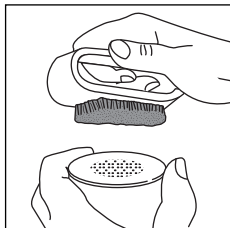
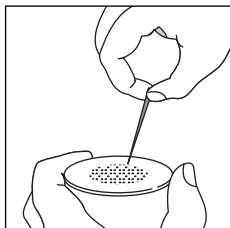

fig. 25
fig. 26
- Rinse all components and clean the metal filter thoroughly in hot water using a brush (fig. 25). Make sure the holes in the metal filter are not blocked. If necessary, clean with a pin (see fig. 26).
- Clean the outlet thoroughly in hot water using a brush. Make sure the holes are not blocked. If necessary, clean with a pin (fig. 26).